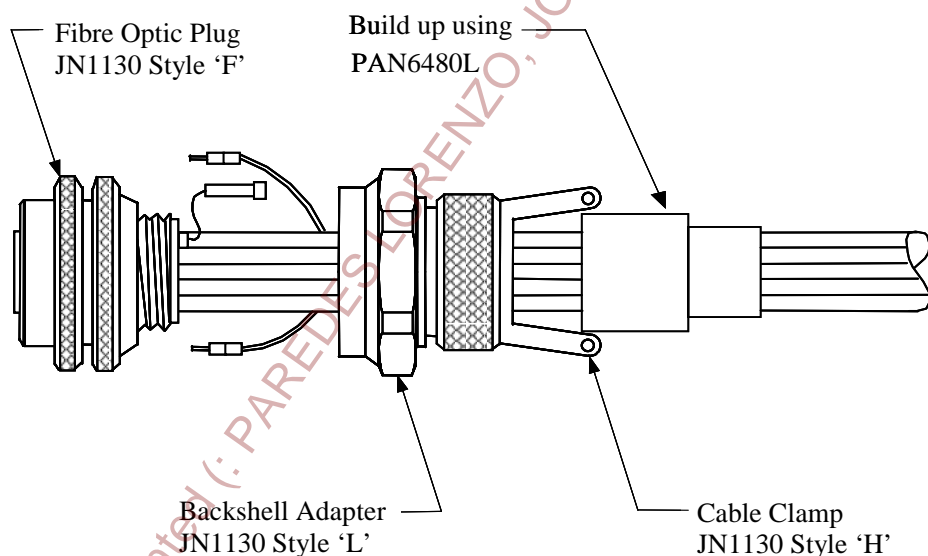

Figure 19
- 4.3.3 Slide the cable clamp assembly (consisting of JN1130H cable clamp and JN1130L backshell adapter) over the fibre optic bundle as shown in Figure 19. Insert the contacts into the connector starting from the centre and working to the Outside.